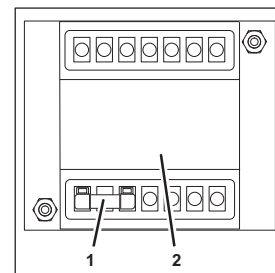

Fig. 43
1. Remove the fuse (Fig. 43/1) from the transformer (Fig. 43/2).
2. Insert the new fuse into the (Fig. 43/1) transformer (Fig. 43/2).